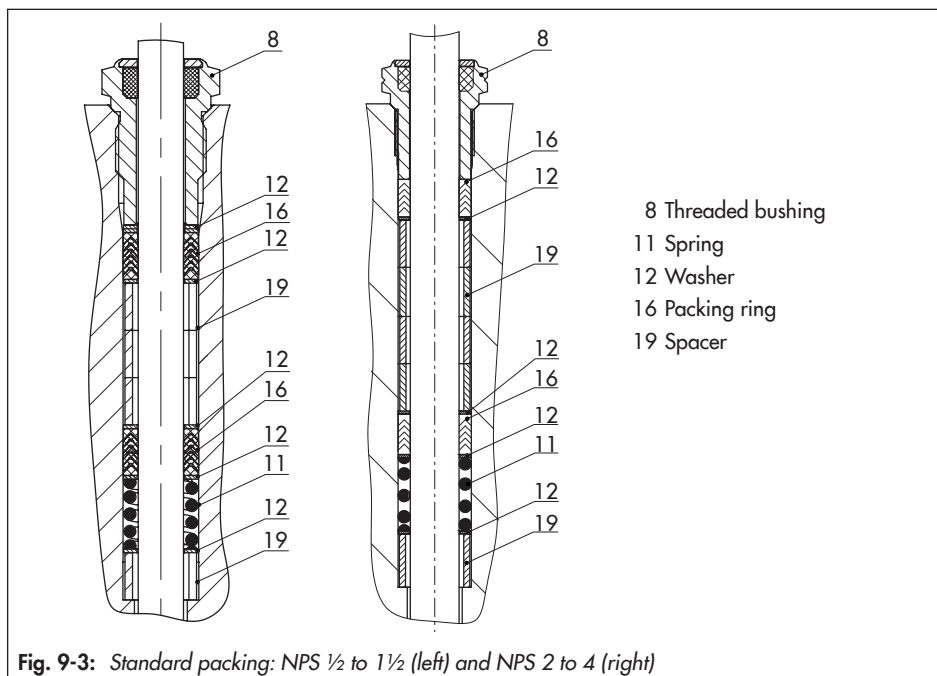

Fig. 9-3: Standard packing: NPS ½ to 1½ (left) and NPS 2 to 4 (right)
12. Carefully slide the packing parts over the plug stem into the packing chamber using a suitable tool. Observe the proper sequence (see Fig. 9-3).
13. Firmly press the plug (5) into the seat (4). Fasten down the flange (2) with the body nuts (14). Tighten the nuts gradually in a crisscross pattern. Observe tightening torques.
14. Screw in the threaded bushing (8) and tighten it. Observe tightening torques.
15. Place yoke (3) on the flange (2) and fasten using the castellated nut (92).
16. Loosely screw the lock nut (10) and stem connector nut (9) onto the plug stem.
13. Firmly press the plug (5) into the seat (4). Fasten down the insulating section (21) with the body nuts (14). Tighten the nuts gradually in a crisscross pattern. Observe tightening torques.
15. Place yoke (3) onto the insulating section (21) and fasten using the castellated nut (92).
16. Carefully slide the packing parts over the plug stem into the packing chamber using a suitable tool. Observe the proper sequence (see Fig. 9-3).
17. Firmly press the plug (5) into the seat (4). Fasten down the flange (2) with the body nuts (14). Tighten the nuts gradually in a crisscross pattern. Observe tightening torques.
18. Screw in the threaded bushing (8) and tighten it. Observe tightening torques.
19. Place yoke (3) on the flange (2) and fasten using the castellated nut (92).
20. Loosely screw the lock nut (10) and stem connector nut (9) onto the plug stem.